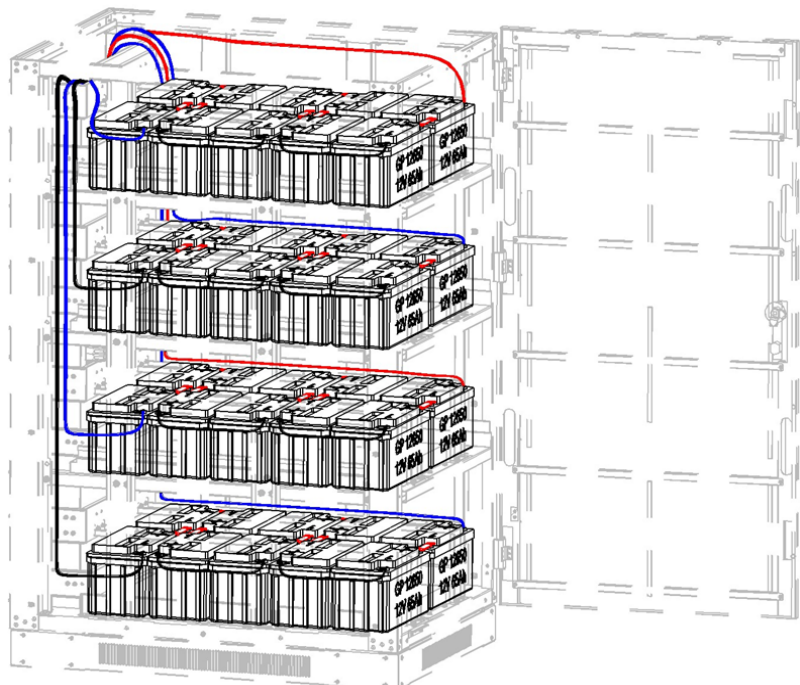
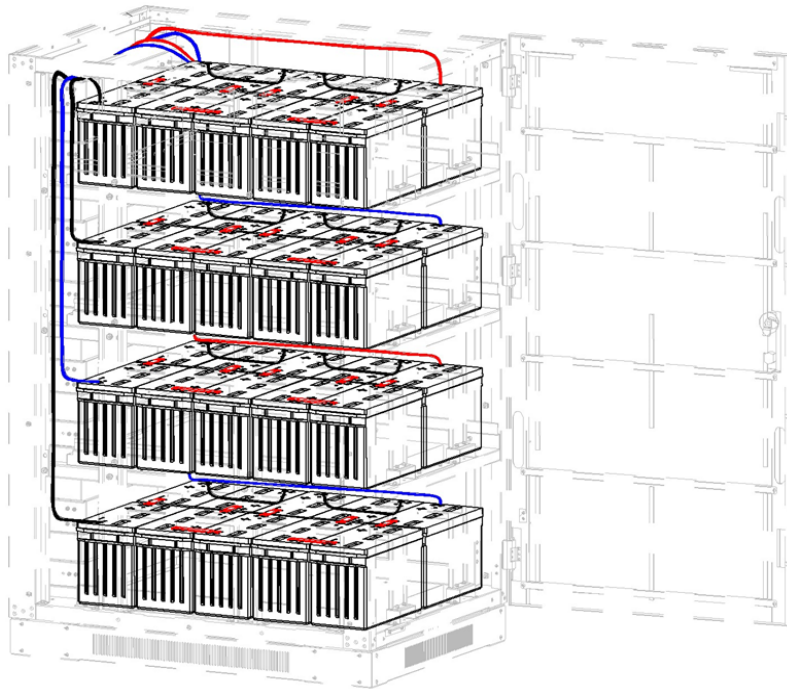
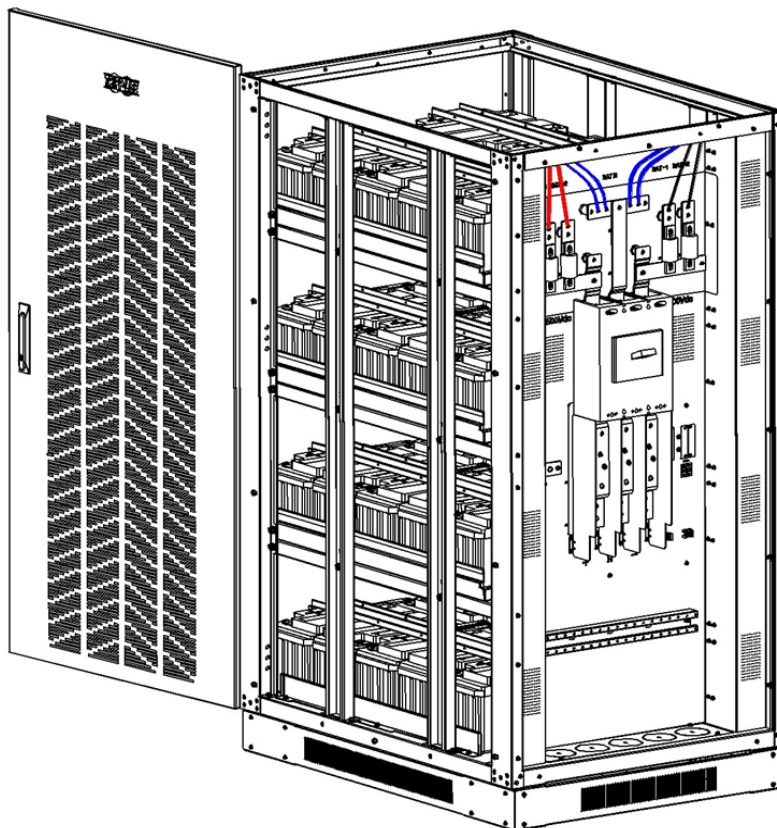

Figure 5-42: Model BP240V65L-NIB
Figure 5-43: Model BP240V100L-NIB
Figure 5-44
11. Connect the cables from battery group 1 battery 1+ to BAT+ bus bar, battery 10- to BATN bus bar, battery 11+ to BATN bus bar, battery 20- to BAT- bus bar and the layer connect cables. Connect battery group 2 battery 21+ to BAT+ bus bar, battery 30- to BATN bus bar, battery 31+ to BATN bus bar, battery 40- to BAT- copper bar and the layer connect cables (Figure 5-42: Model BP240V65L-NIB or Figure 5-43: Model BP240V100L and Figure 5-44).